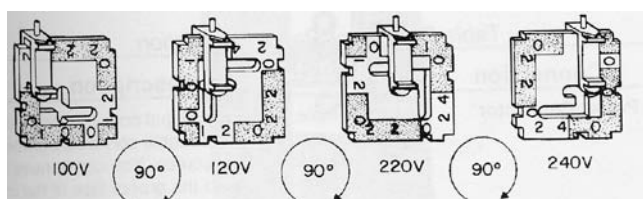

Figure 3-11 Voltage selector
4. Position the voltage selection card so that the white indication pin is pointing upwards as Figure 3-11 illustrates.